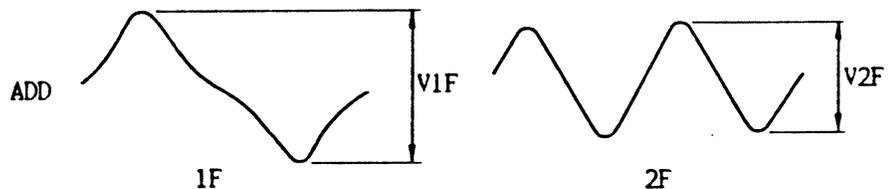

Fig. 415 Resolution Measurement
- (2) Start the stepping motor and load the level disk.
- (3) Shift the head to the innermost track.
- (4) Record one track using a constant 1F frequency (WRITE DATA frequency; for 1.6MB: 125kHz, for 1MB: 67.5kHz).
- (5) Measure the average read level  $V_{1F}$  in accordance with Fig.415.
- (6) Record using 2F [double the 1F of item (4)] as in item (4).
- (7) Measure the average read level  $V_{2F}$  in accordance with Fig.415.